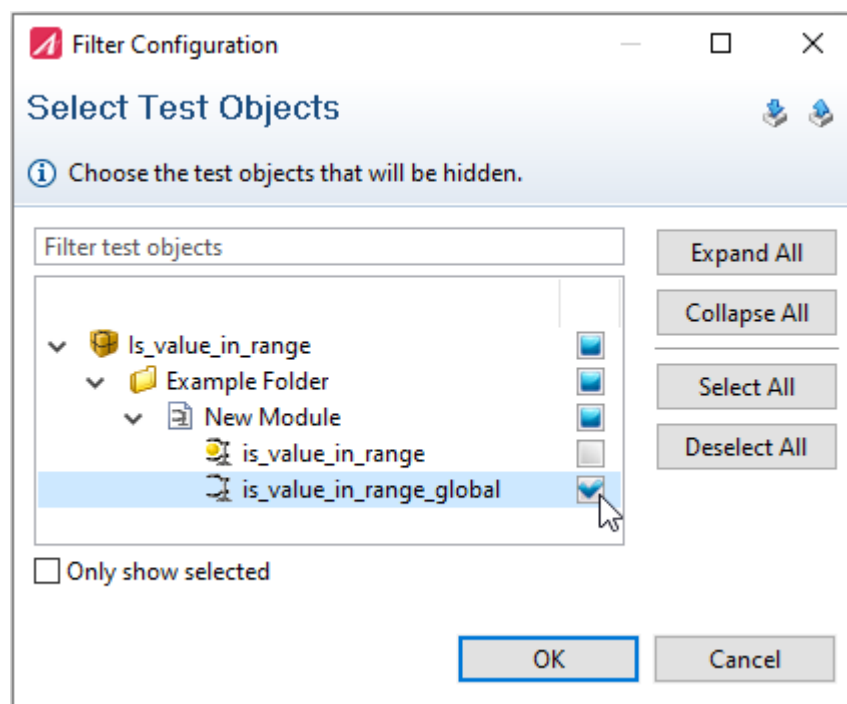

Figure 6.41: Filter Configuration Dialog
- The Filter Configuration dialog will open (see figure 6.41).